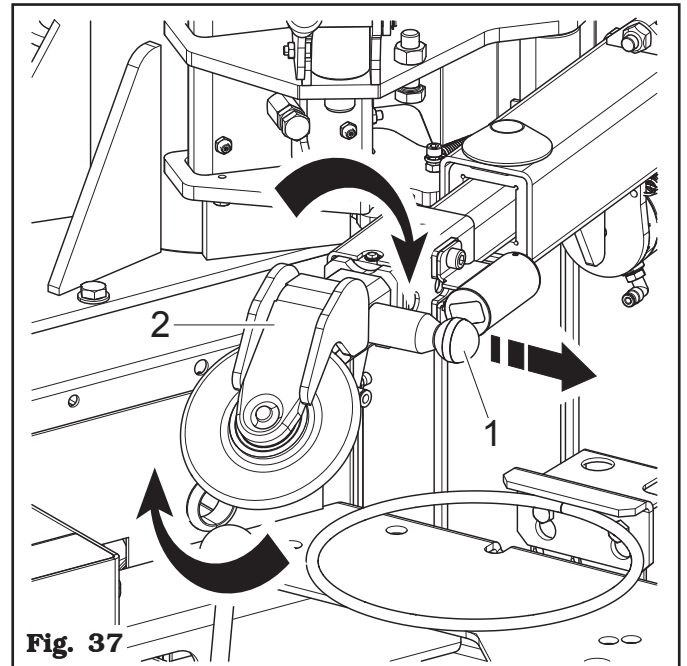

Fig. 37
5. Pull the knob (Fig. 37 ref. 1) and turn of 180° the bead breaking roll (Fig. 37 ref. 2).